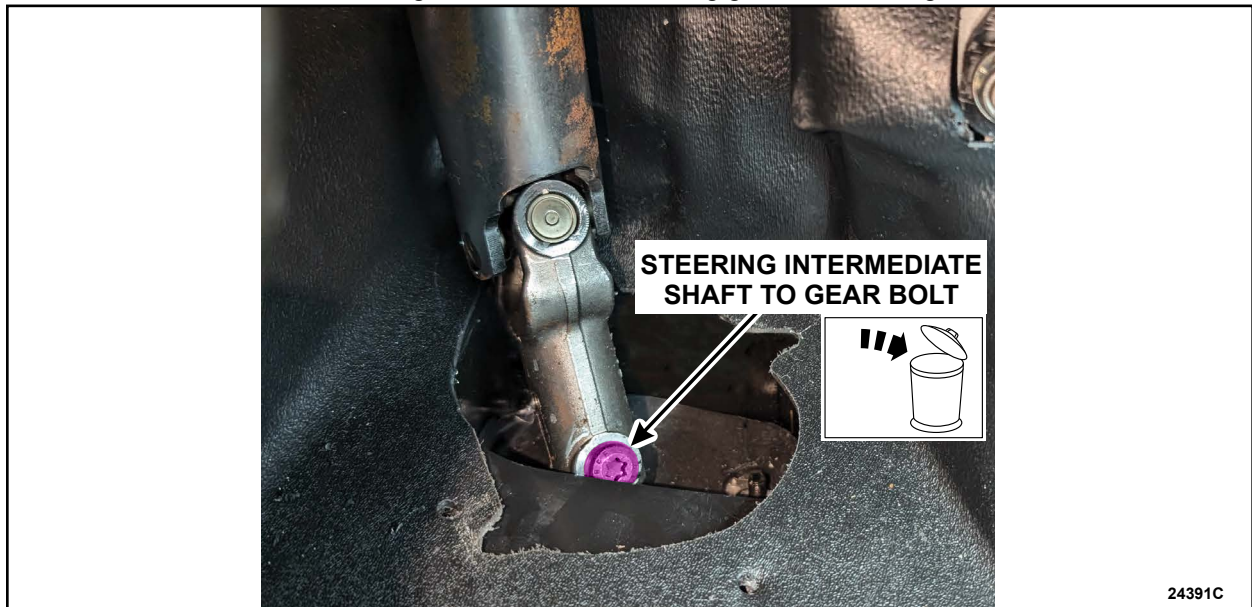

FIGURE 21
8. Remove and discard the steering column shaft-to-steering gear bolt. See Figure 21.